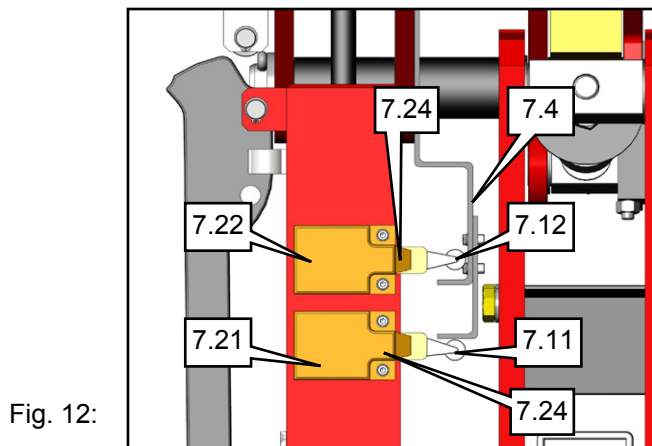

Fig. 12:
- Swivel both levers (1.4 / 1.5) complete with AWC unit (2) upwards (Fig. 12 left).
- Remove levers (1.4 / 1.5) from AWC unit (3)
- Turn the spindle of the new AWC unit (2) inside the crosspiece (2.16) (approx. 10 rotations).